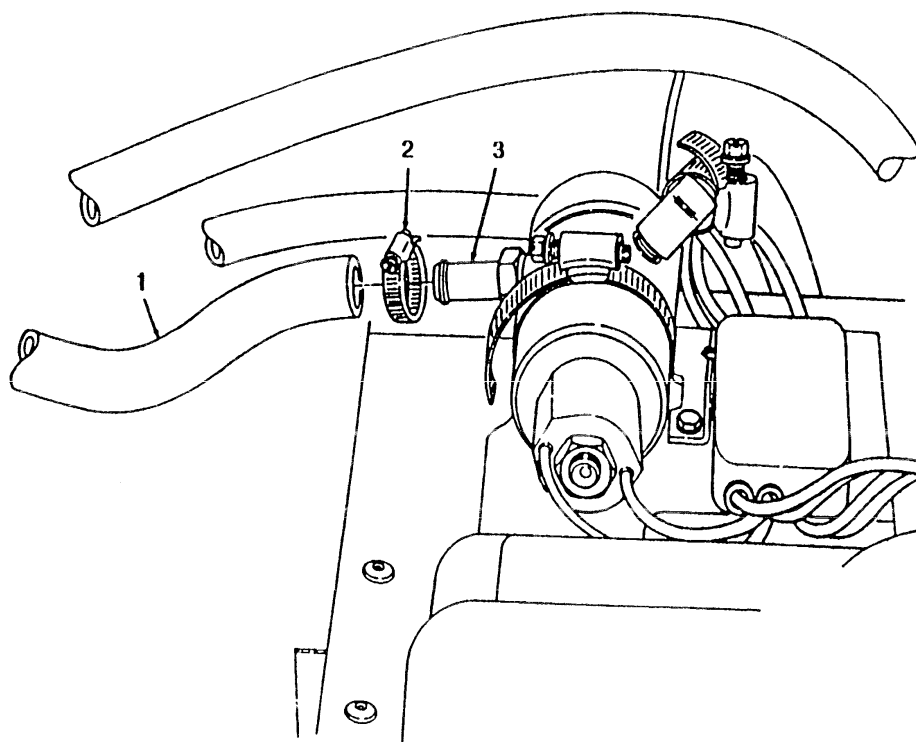

FIGURE 3-16
- C. Loosen clamp (2) and remove hose (1) from fitting (3). (see Figure 3-16)
- J. Connect hose (1) to fitting (3) and secure with existing clamp (2). (see figure 3-16)